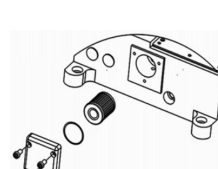

图7 (Fig.7)
(3) 滤油器的更换(图 7)
3.Replacing oil filter:(Fig.7)